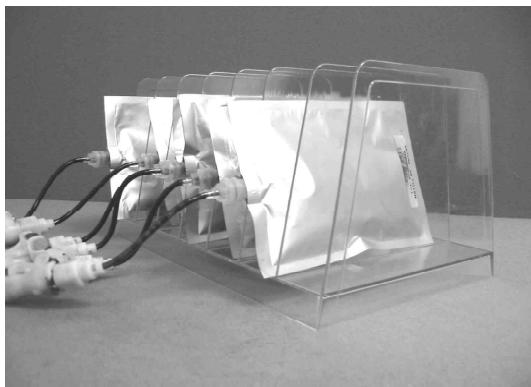

Fig. 3
3. Place the ink bags in the ink carriage as in Fig 3. **Ensure the ink carriage or ink bags are placed on the same surface as the printer.** The ink bags should never be elevated above the print head, or ink may drip from the print heads. Keeping the bags beside the printer and at the same level assures the ink delivery system will operate properly.